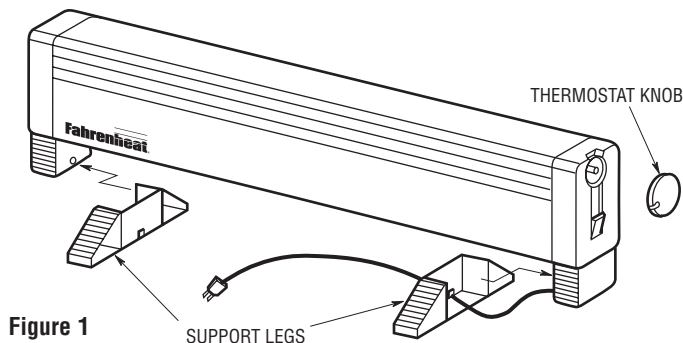

Figure 1
2. Remove one plastic support leg and thermostat knob from packaging in bottom of heater. The right hand support leg is pre-assembled to the power cord and requires only to be snapped into place as shown in Figure 1.
3. Fit left hand support leg onto heater and snap into position as shown in Figure 1.
4. Position thermostat knob onto thermostat shaft as shown in Figure 1.
4. Do not operate heater without support legs attached as shown in Figure 1.